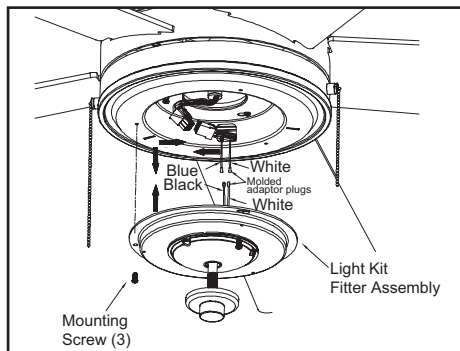

Figure 14
3. Remove one screw from the light kit pan and loosen, but do not remove the other two screws. Connect the 9-pin plug exiting the bottom of the fan motor assembly to the 9-pin plug from the light kit pan. Connect the blue wire and the white wire from the light kit pan to the black wire and the white wire from the light kit fitter assembly by connecting the molded adaptor plugs together. Carefully tuck all wires and splices in to the switch cup. (Figure 14)
4. Push the light kit fitter assembly up so that the two loosened screw heads fit into the keyhole slots. Turn the light kit fitter assembly clockwise, tighten the screws. Reinstall the screw that was removed in step 3 and tighten firmly. (Figure 14)